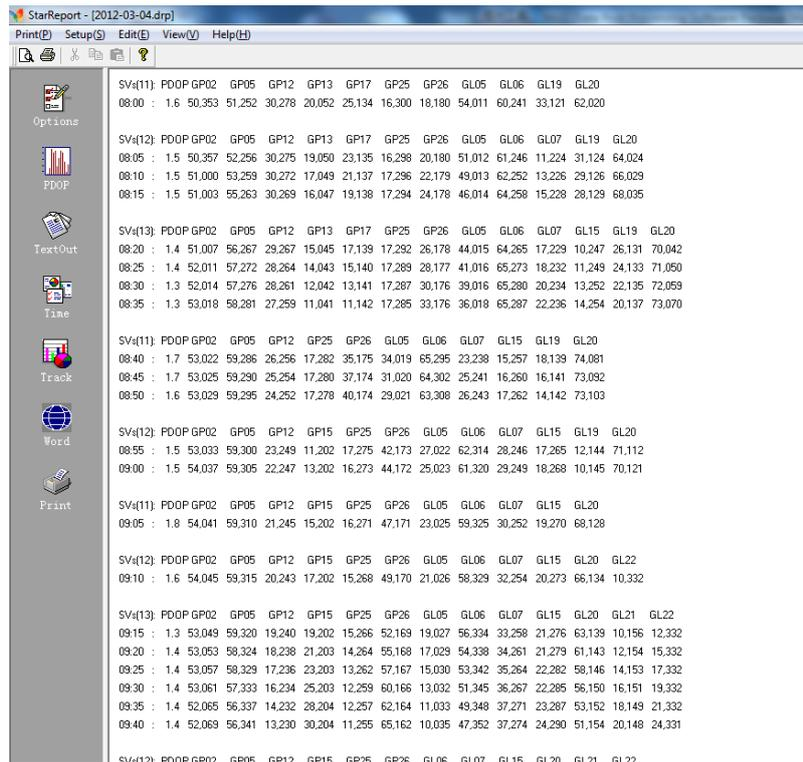

Figure 9-13
1. Export satellite detailed status Click  button See Figure9-13: